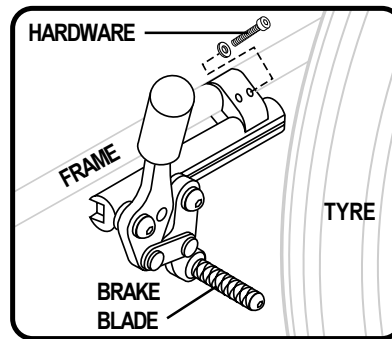

Figure 19. Park Brake Adjustment
3. Loosen the hardware that fastens the park brake to the frame. See figure 19.